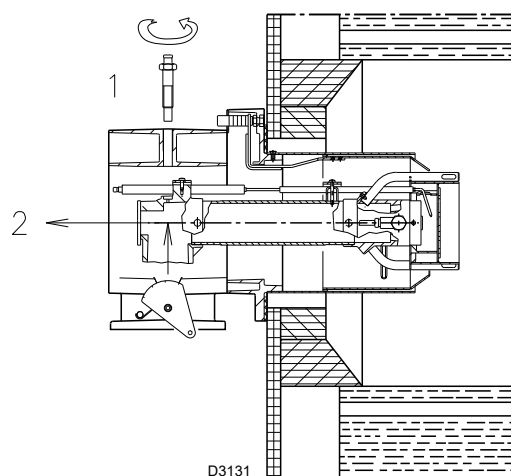

Fig. 19
- Remove the screw 1)(Fig. 19) and the internal part 2);
To facilitate the adjustment, loosen the screw 1)(Fig. 19), adjust, then block.